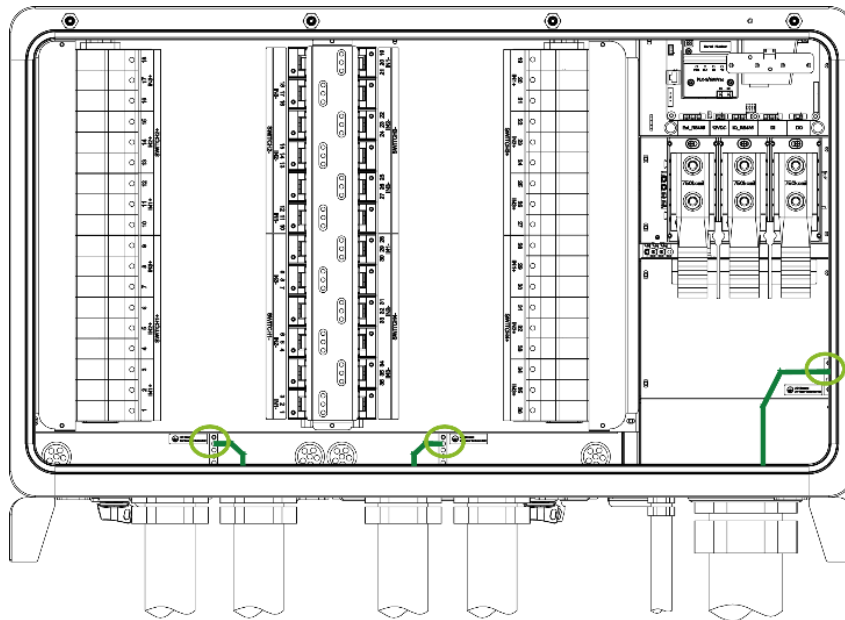

Figure 4-4 Internal DC and AC Ground Terminals
- Connect at the two internal DC grounding terminals (as shown in Figure 4-4 below the DC fuse holders).
- Connect at the internal AC grounding terminal (as shown in Figure 4-4 below the AC terminal block).